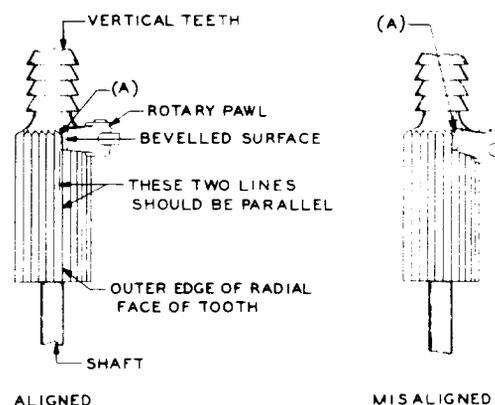

Fig. 4—Illustrating Rotary Pawl Aligned and Misaligned With Respect to the Outer Edge of the Radial Face of the Tooth
- (a) When the rotary armature is operated manually, after the rotary magnet has been electrically operated and released, the actuating surface (beveled surface) of the pawl shall align itself with the outer edge of the radial face of the tooth as the pawl begins to rotate the shaft from the rotary normal position (Fig. 4, location A). This requirement shall be checked in the positions indicated in Table B. To check this requirement, use a P-220366 dental mirror and proceed as follows.